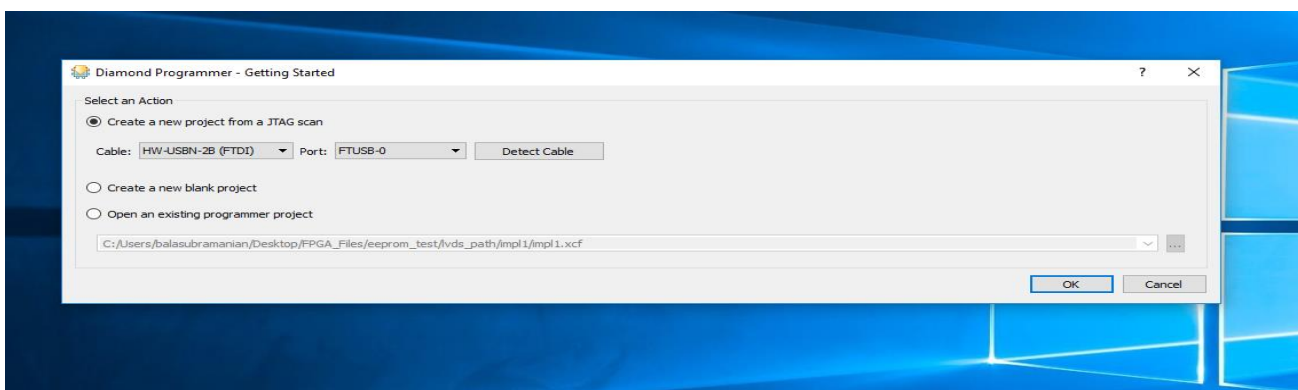

Figure 6: FTDI USB Cable Detection
1. Open Lattice Diamond programmer tool from the Start menu and select Detect cable. Click OK as shown in Figure 6,